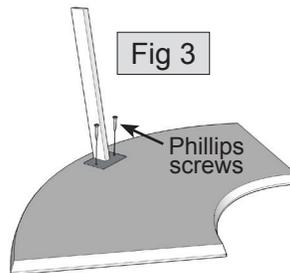

Fig 4
7. Attach tabletop to brackets using Phillips screws into pre-drilled holes, as shown in figure 4. Once all 8 screws are started, tighten securely, using care not to strip.
8. Pull the chairs together and rest the tabletop on the brackets, as shown in figure 4.